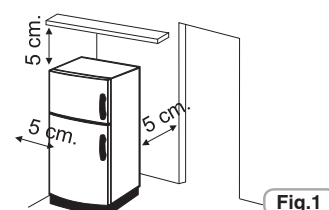

Fig.1
**1 Make sure that the space around the refrigerator is adequate for ventilation. The illustration (fig. 1) shows the minimum space required for the installation of the refrigerator.**
**The use of the refrigerator in a space the size less than those indicated in the illustration below (fig. 1) could result in improper operation, loud noises and breakdowns.**